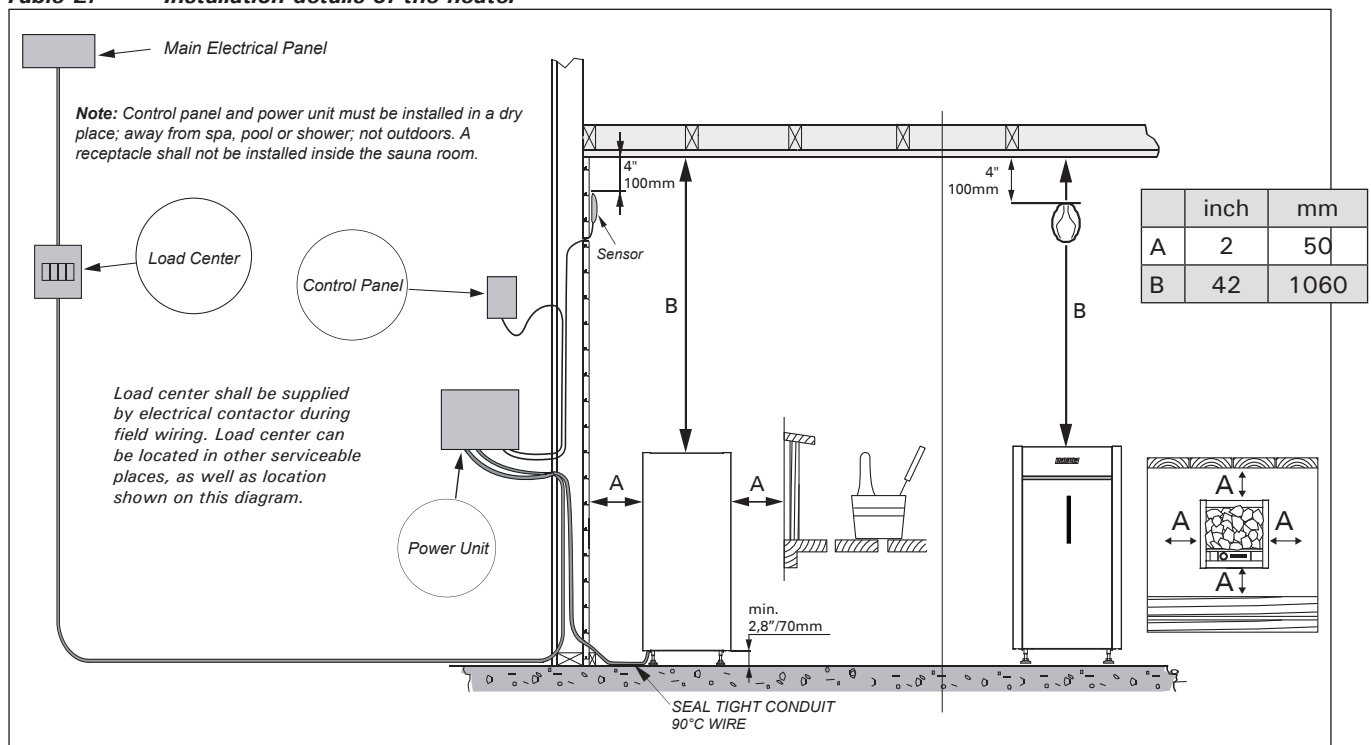

Figure 6. Sauna control / Minimum safety distances / Installing the temperature sensor
- Install the sensor (WX248), which comes with the heater, as shown in figure 6.